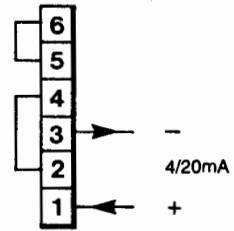

Fig 4 Terminal connections
3. Connect the loop wiring to the terminal block as shown in Fig 4. To ease installation the terminal block can be removed from the instrument by gently pulling.